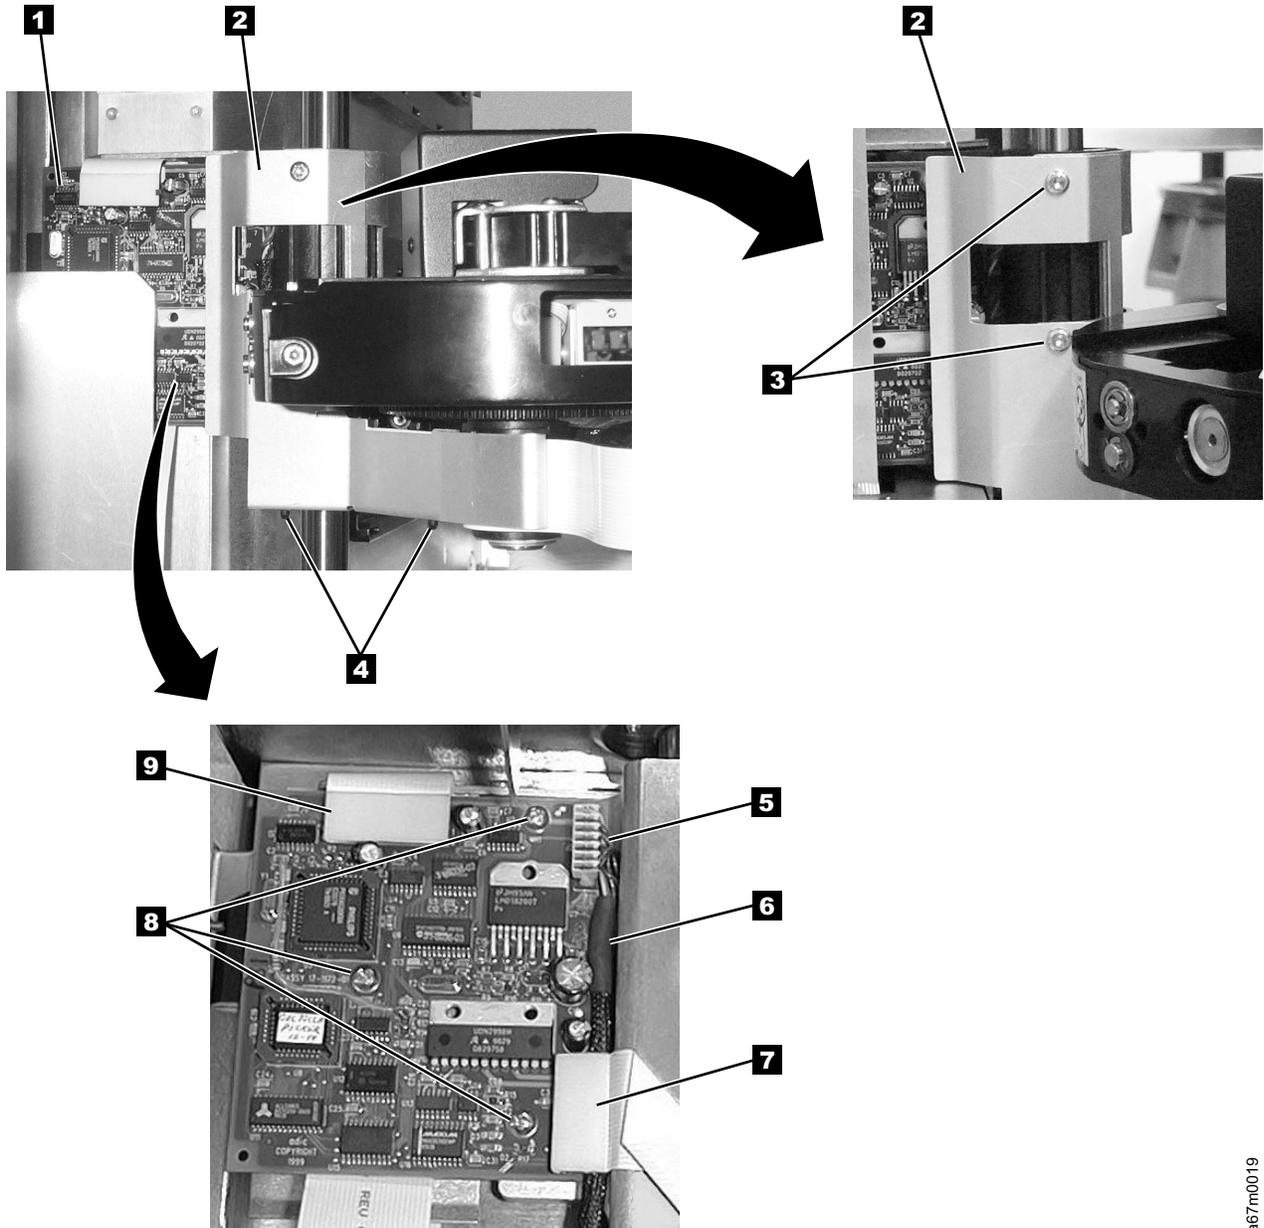

Figure 7-11. Picker Control Board Removal and Replacement
See Figure 7-10 on page 7-13 and Figure 7-11 on page 7-15 for locations of components in the following procedure:
6. See Figure 7-11 on page 7-15. Remove two T20 Torx screws **3** holding the sheet metal covering the Picker Assembly Flex Cable. Remove the sheet metal.
7. See Figure 7-11 on page 7-15. At connector **5** disconnect the Rotary Axis Motor cable **6** from the Picker Control Board. See Figure 7-10 on page 7-13 push cable **4** through the hole in casting **5**.
See Figure 7-11 on page 7-15 for locations of components in the following procedure: